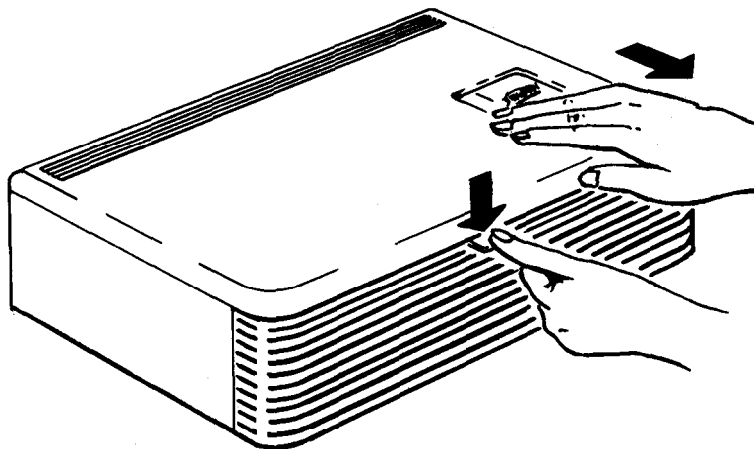

Figure 4
- B. Remove cabinet top. Cabinet top is easily removed by pressing down on tab located on top of front grill (Fig. 4); while pressing down on tab with one hand, slide cabinet top with other hand slowly toward front grill about one inch until unlocked. Cabinet top can now be lifted up and off.